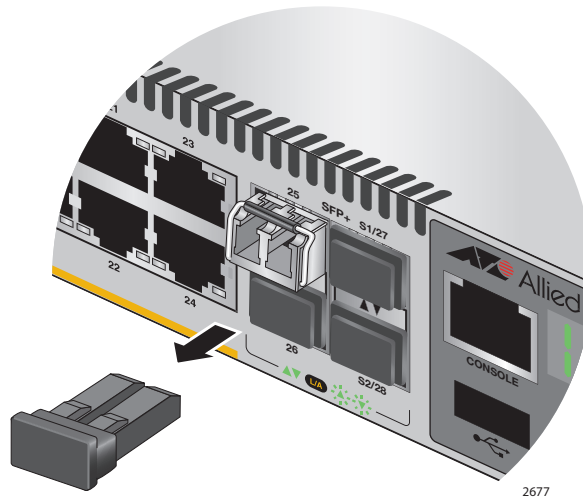

Figure 66. Removing the Dust Cover from an SFP or SFP+ Transceiver
- Remove the dust cover from the transceiver, as shown in Figure 66.